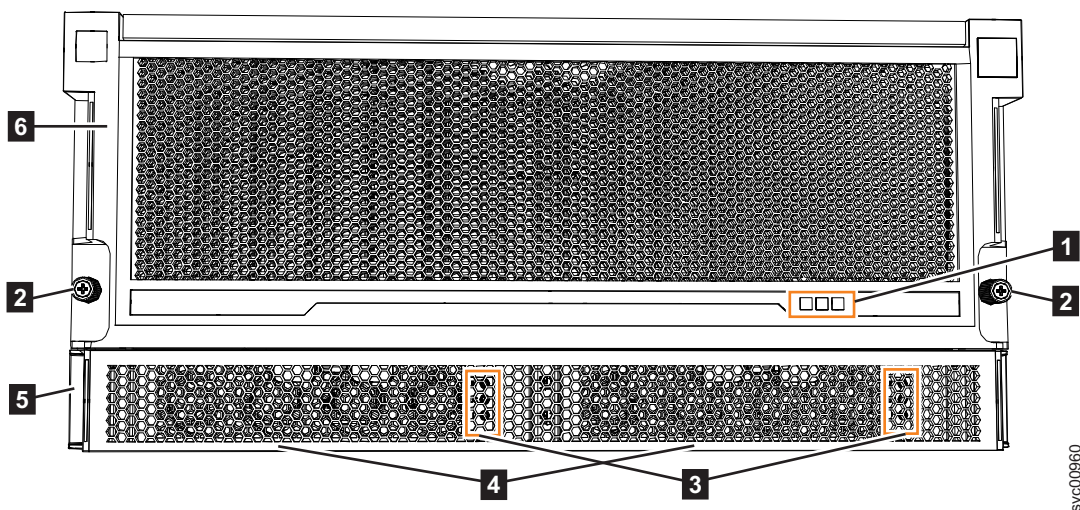

Figure 117. Features on the front of the 2076-92F expansion enclosure
- Before you connect the power cables to the rear of the enclosure, always check that the expansion enclosure is secured in the rack. If needed, tighten the thumbscrews on the front of the enclosure (**2** in Figure 117) to ensure that the enclosure drawer does not roll open.
The 2076-92F expansion enclosure has two power supply units (PSUs) that are accessible from the front of the enclosure (**4** in Figure 117). As the figure also shows, the PSUs are covered by the 1U fascia (**5**).